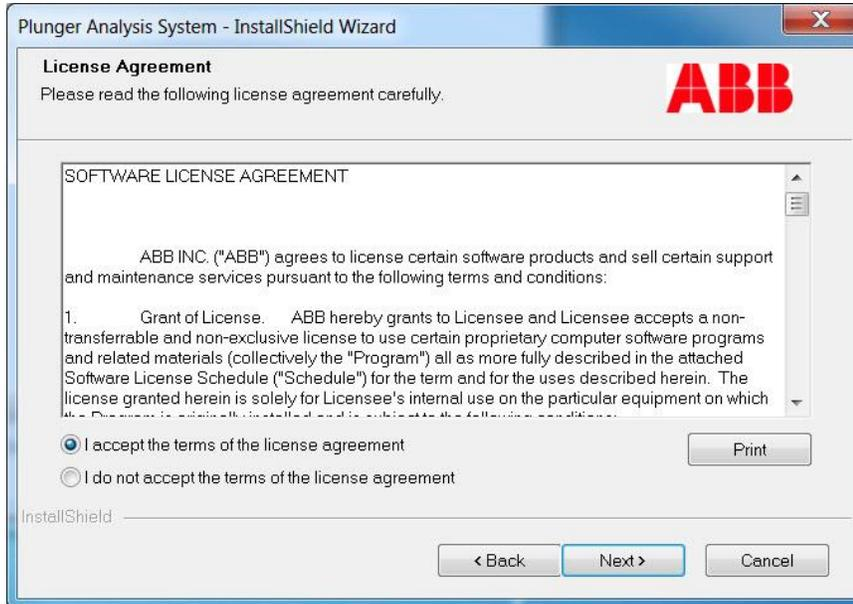

Figure 22: Plunger Analysis System InstallShield Wizard license agreement screen
19) At the License Agreement screen (Figure 22) accept the terms and click **Next**.